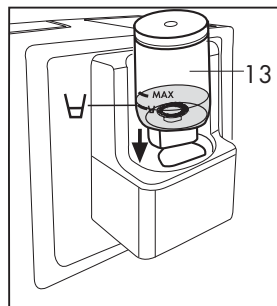

Fig. 12
- Pour the desired quantity of milk into the beaker, without exceeding the level  marked on the beaker. Completely insert the beaker with the whisk (13) in its seat (Fig. 12)
- Press the button  (G) for hot whipped milk. For cold whipped milk press the button  (G) for 2 seconds. Wait until the end of preparation.